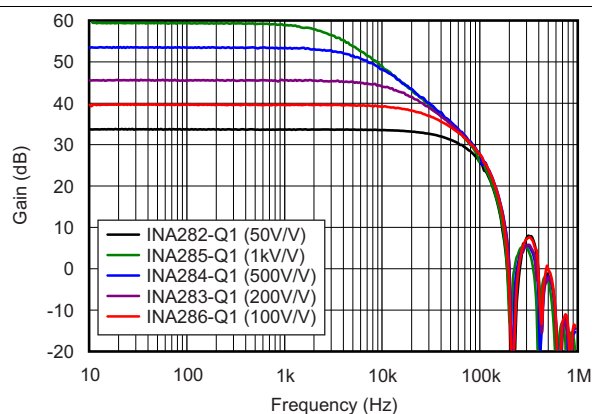

Figure 1. Gain vs Frequency
(7) See typical characteristic graph Figure 1 and the *Effective Bandwidth* section in the Applications Information.